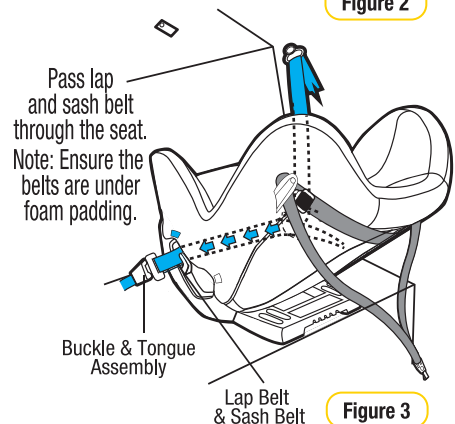

Figure 3
Step 4: Feed the adult lap or lap sash belt through the belt path opening (refer Figure 3).